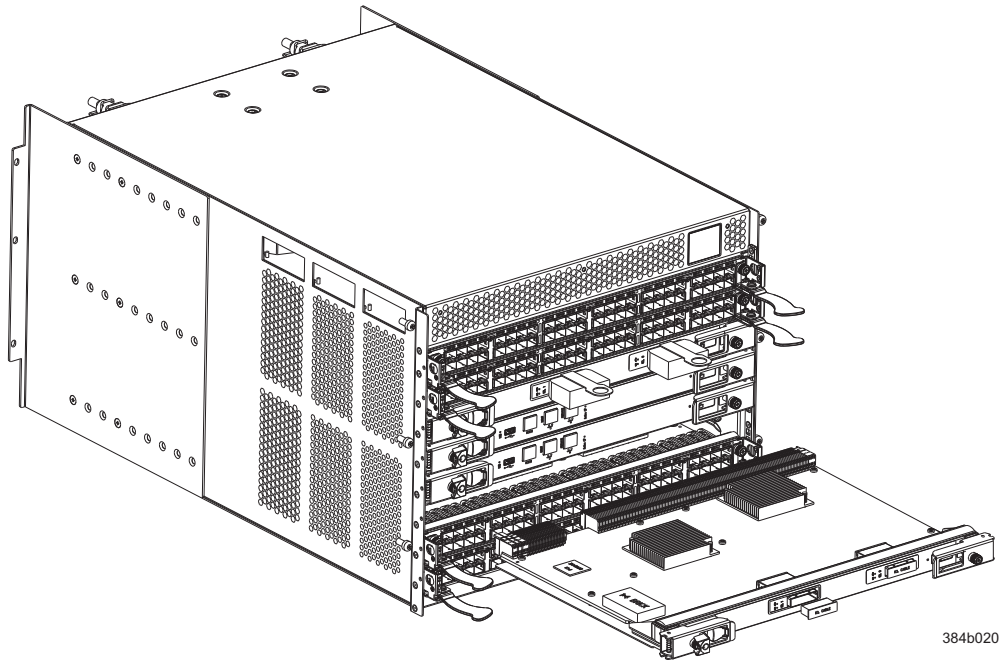

Figure 36. Removing and replacing the core switch blade
This section describes how to remove and install a core switch blade. The SAN384B has two core switch blades: one in slot 3 and one in slot 6. Note that the blade shown in Figure 36 on page 74 is shown with EMI plugs installed.
5. Open both ejectors simultaneously to approximately 45 degrees and pull the core switch blade out of the chassis (Figure 36 on page 74).